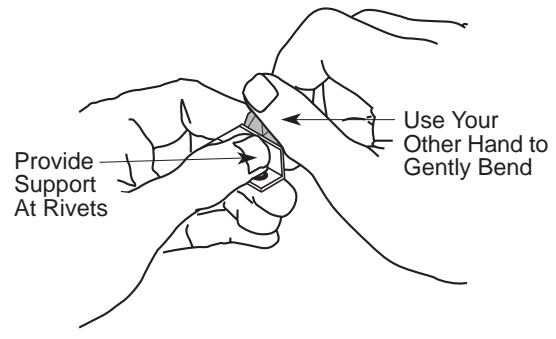

Figure 4-1: Adjusting the Thermocouple
6. Grasp the aluminum base of the thermocouple on either side of the rivets to provide support as shown in Figure 4-1. Using your fingers, gently bend the thermocouple where the "guitar pick" sensor meets the aluminum base.